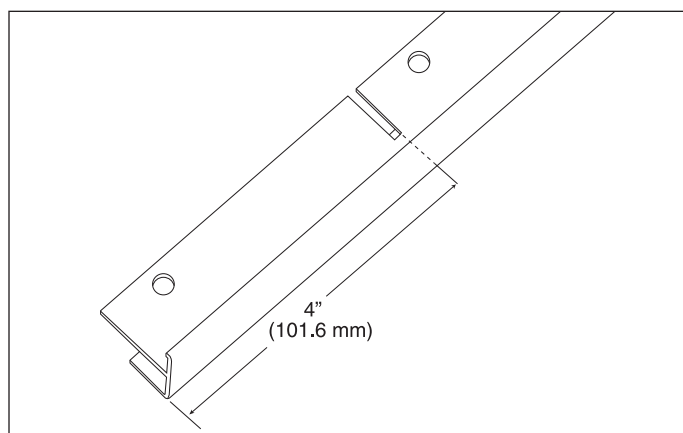

Figure 2-13.
2. Cut 4" (101.6mm) off the left and right Side Trim using the slot as a guide to make the proper size for a 75" (1905mm) cut-out. (See Figure 2-13).